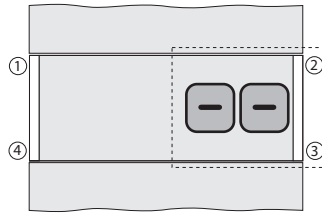

Figure 6-8. Trimming Paired Section 2:3
2. Move the certified test weights directly over the next paired cell section (two and three in Figure 6-8) and record the indicator reading.